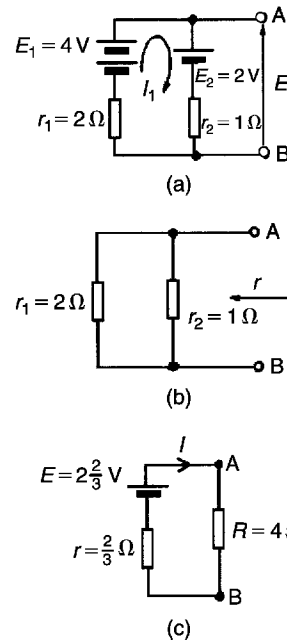

Figure 15.42
- (i) The 4Ω resistor is removed from the circuit as shown in Fig. 15.42(a)
- (iii) Removing the sources of e.m.f. gives the circuit shown in Fig. 15.42(b), from which, resistance
- (iv) The equivalent Thévenin's circuit is shown in Fig. 15.42(c), from which, current,